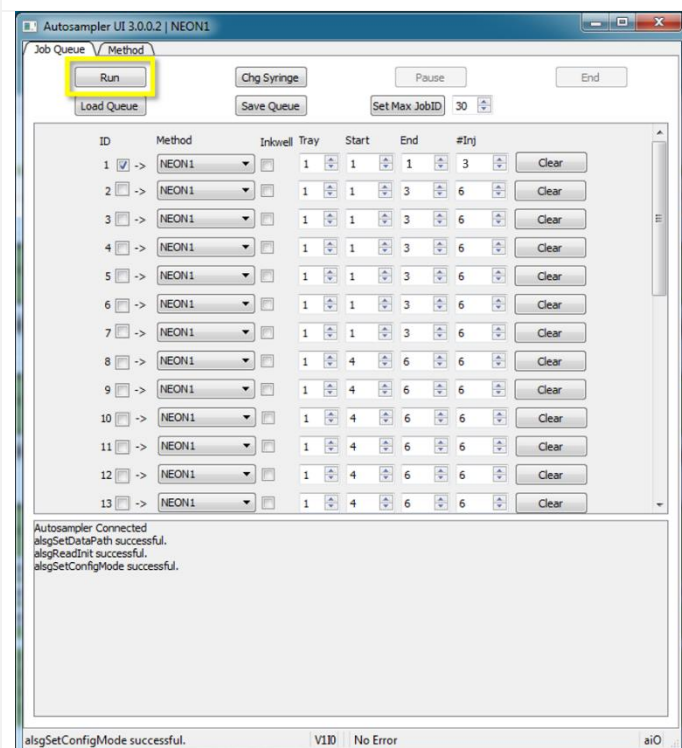

Figure 178. Select Run to Run NEON1 Configuration.
STEP 19 | Select **Run** to test the Sample Volume (uL) adjustment (Figure 178).